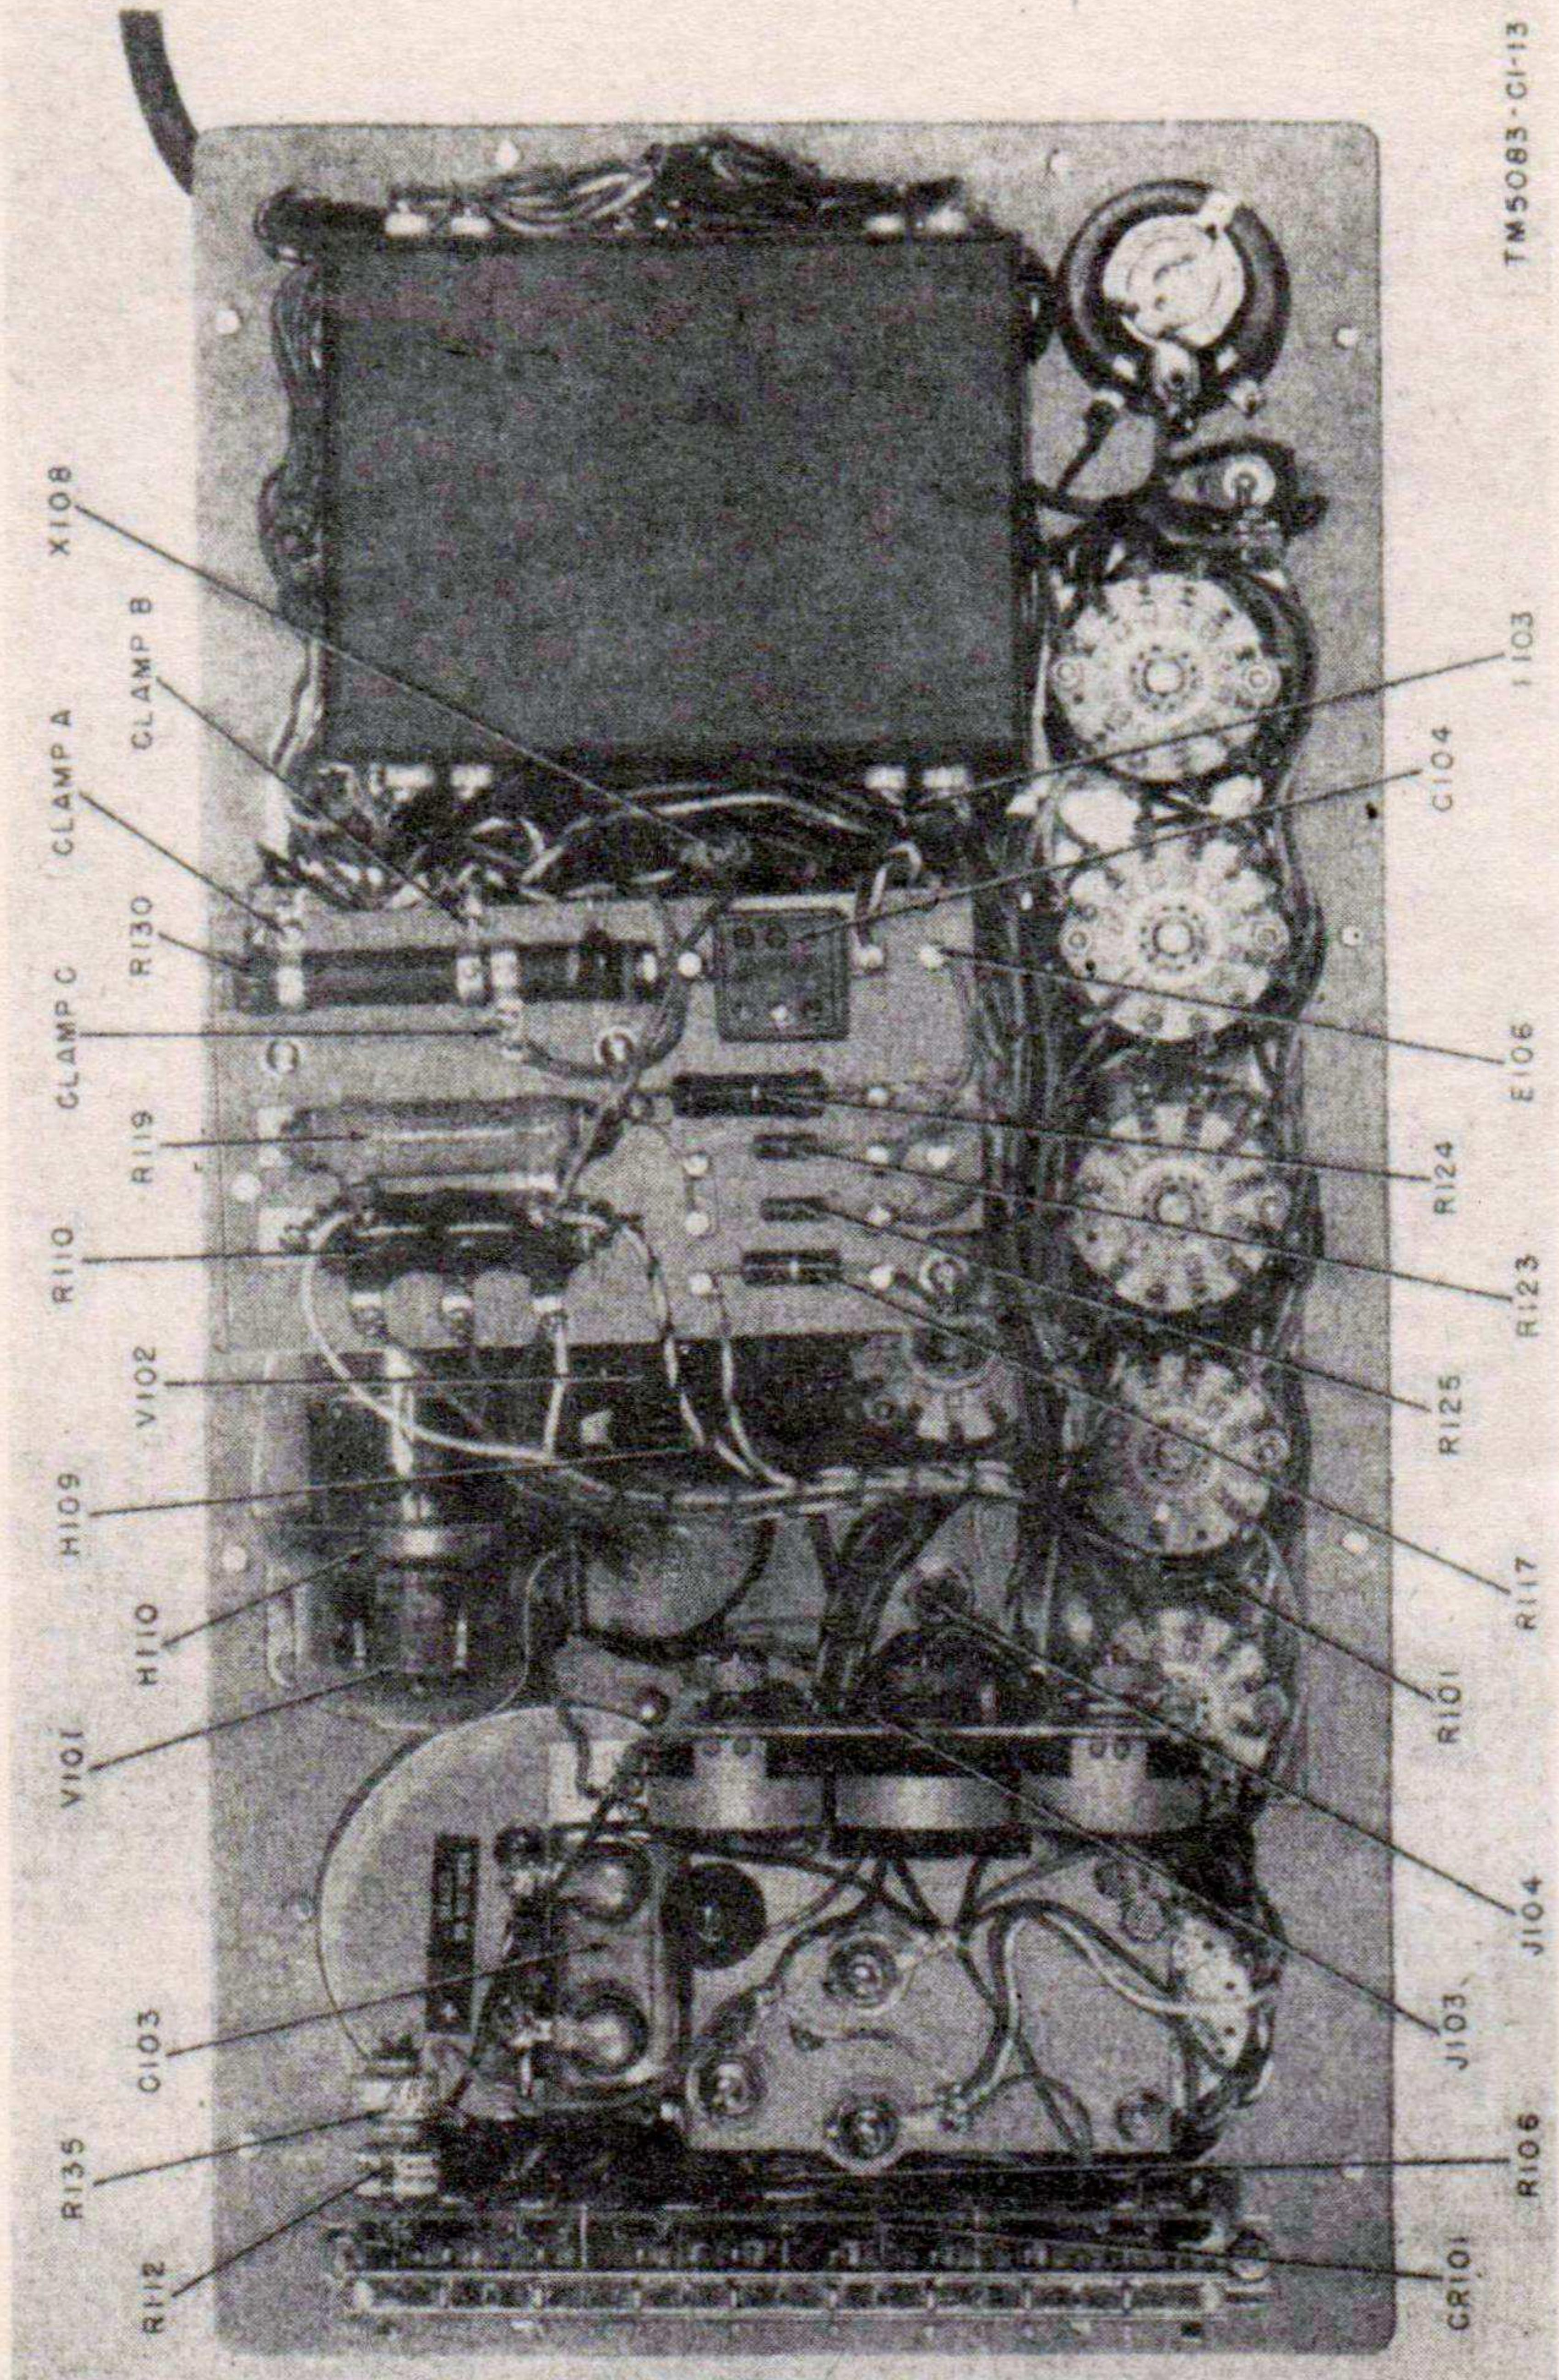

Figure 26.2 (Added). Internal view of Electron Tube Test Set TV-7A/U.
(4) (Superseded) On the TV-7/U, or the TV-7A/U serial numbers 1 through 1200, loosen and adjust clamp A (fig. 26 or 26.1) of R130 until the voltmeter indicates 40 volts plus or minus 1 volt on the 50-volt scale. On the TV-7A/U, serial numbers 1201 through 9492, loosen and adjust clamp C (fig. 26.2) until the voltmeter indicates 40 volts plus or minus 1 volt.
- (7) (Superseded) On the TV-7/U, or the TV-7A/U, serial numbers 1 through 1200, press and hold the 2-DIODE and 3-MUT. COND. buttons. Loosen and adjust clamp B (fig. 26 or 26.1) of R130 until the voltmeter indicates 56 plus or minus 1.5 volts on the 150-volt scale. On the TV-7A/U, serial numbers 1201 through 9492, press and hold the 3-MUT. COND. button. Loosen and adjust clamp A (fig. 26.2) of R130 until the voltmeter indicates 130 volts plus or minus 2 volts on the 150-volt scale.